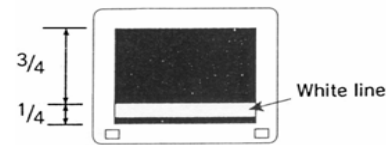

Figure 1
5. With no picture on the monitor, rotate the focus control knob on the IS-1000L or X to adjust the focus. A white line should appear on the screen. This line is the end of the prism. Adjust the position of the prism by turning the set screw on the back of the camera. By turning the set screw the white line (prism) will move up or down on the screen, while keeping the Prism perfectly vertical. The prism should be adjusted so that the line is positioned on the bottom of the screen at a distance corresponding to one fourth of the screen height. (see Figure 1)